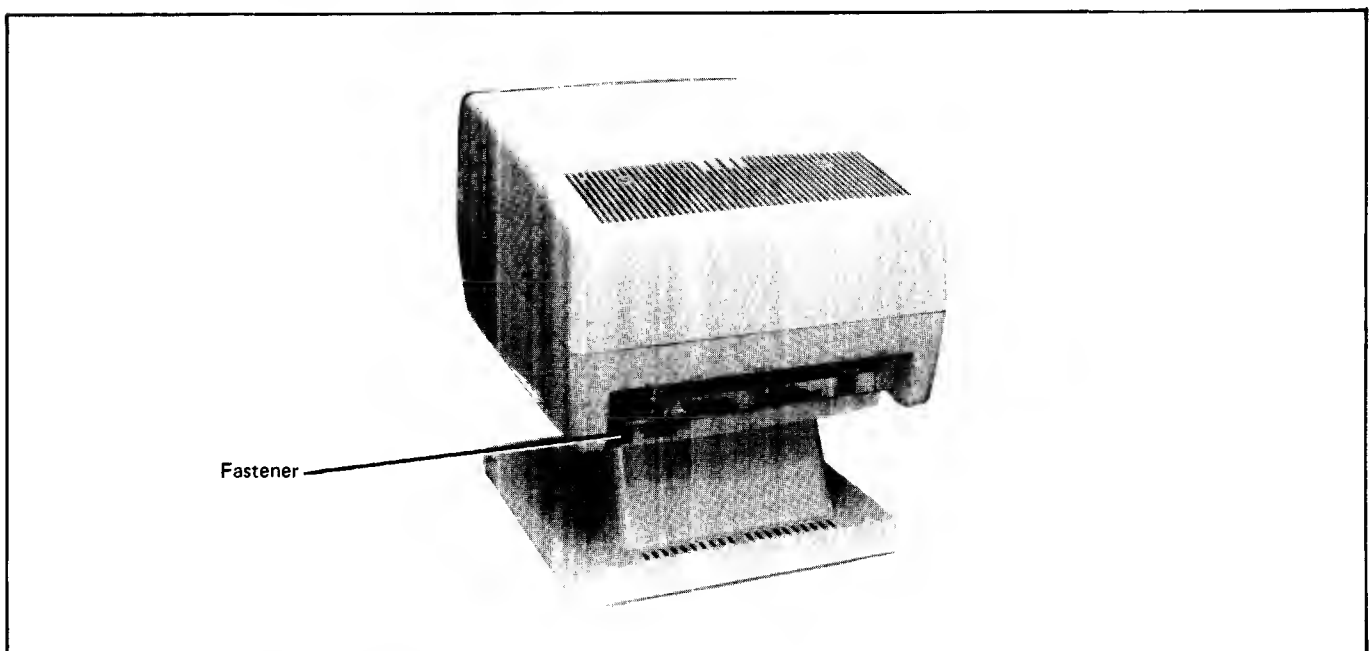

Figure 7-1 2621B Terminal (Rear View)
2. Loosen the quarter-turn fastener at the left rear of the terminal (as viewed from the rear). See figure 7-1.